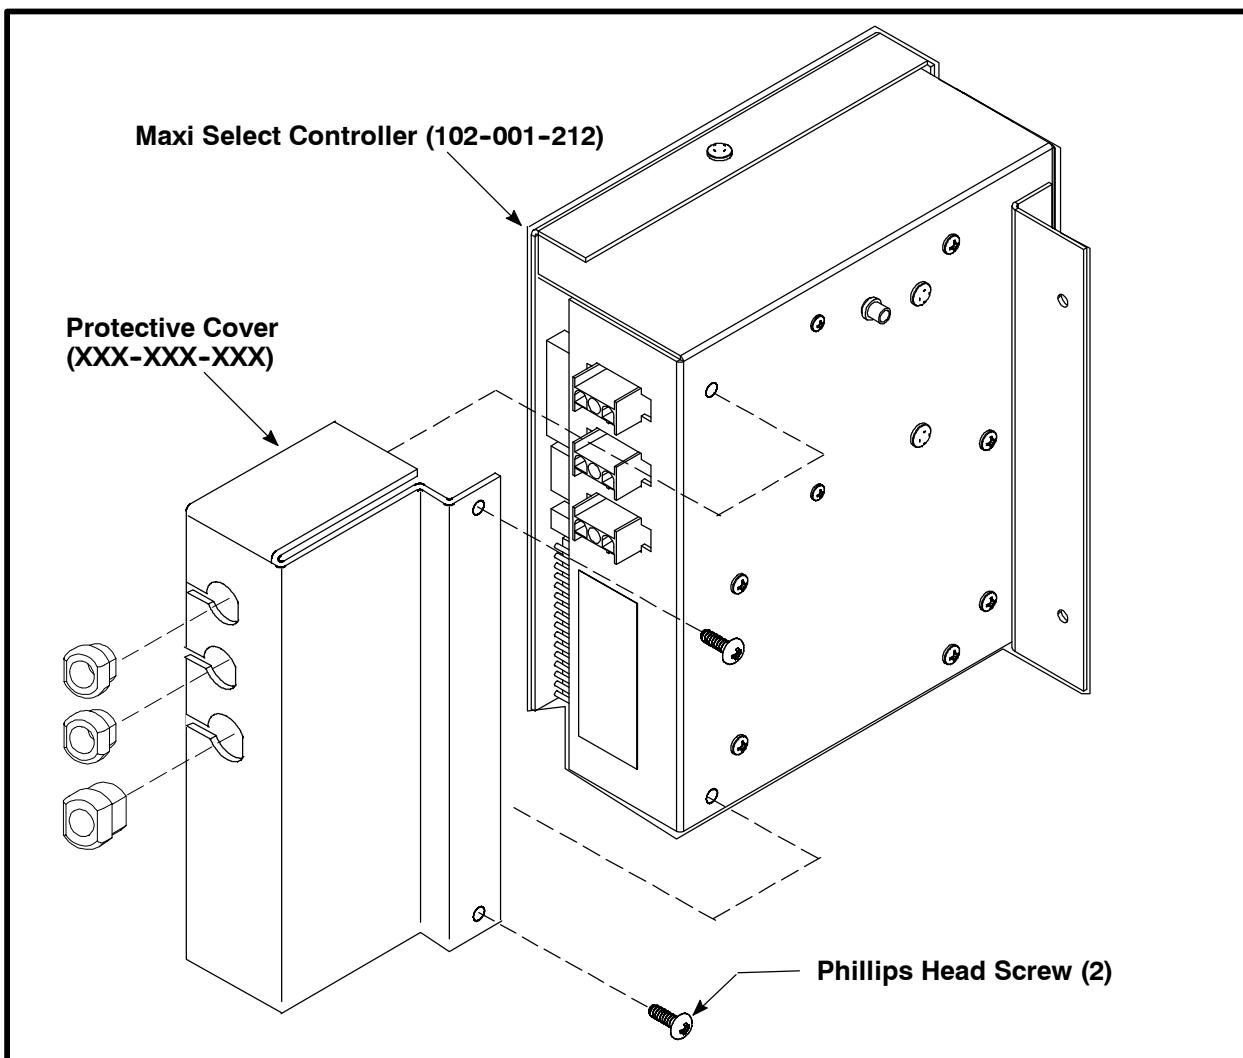

Figure 4-17. Installing Protective Cover on Maxi Select Controller (102-001-212)
Refer to Figure 4-17 and proceed as follows to install the Protective Cover
4. Remove the two No. 1 Phillips head screws from the side of controller opposite to where the Ribbon Cable Assemblies attach. See Figure 4-17.